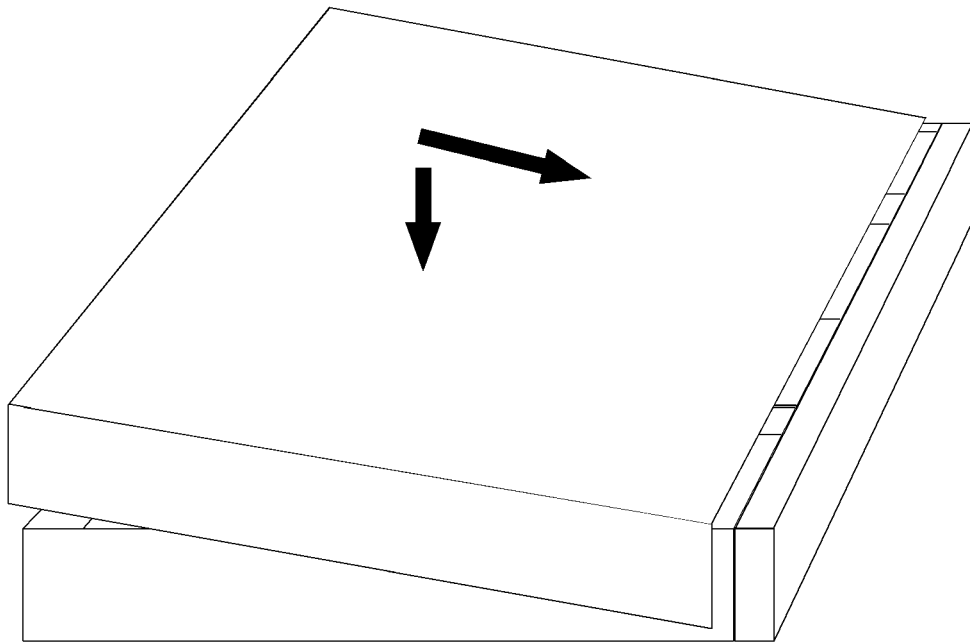

Figure 6-9. Replacing the SA 100 Cover
- b. Place the cover on the base of the SA 100 with approximately 1 inch of space between the front edge of the cover and the rear of the front bezel (see Figure 6-9).